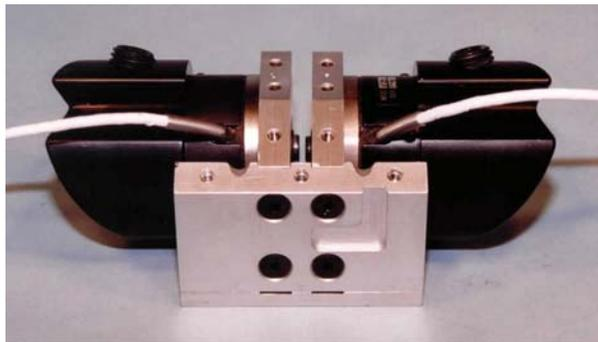

Figure 11.9- Socket assemblies attached to Rear Plate
7. Secure the right socket / load cell assembly, prepared in Step 6, into the right groove of the bottom plate, aligning the threaded holes with the thru holes of the base. Bolt the right socket / load cell assembly to the rear plate using two 1/4"-28 x 3/4" FHSCS {5/32}, as shown in **Figure 11.9**.